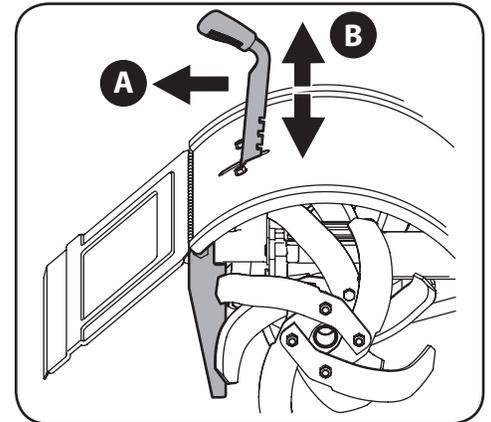

Figure 4-2
3. Move the depth regulator lever all the way down to the "travel" position, so that the tines clear the ground. To change the depth setting, pull back on the depth regulator lever (A) and lift up or down (B), then release the lever to secure in the desired position. See Figure 4-2.